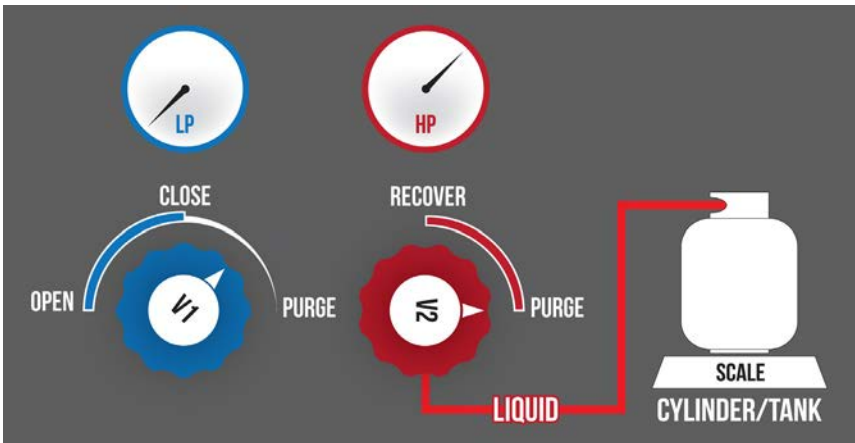

Figure 2 - Setup Procedure for Purging
- 2 Immediately purge F6-DP. Purging is necessary to remove any residual refrigerant from inside F6-DP internal components as well as the hose from the outlet to the recovery tank. Refer to *Purging F6-DP* and *Figure 2* below.
- 1 While F6-DP is off, rotate the PURGE/RECOVER valve (V2) to PURGE. See Figure 2.